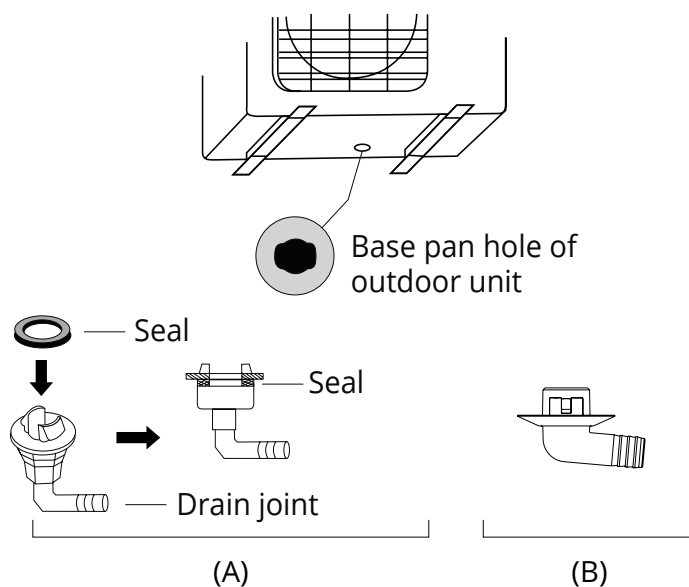

Fig. 4.4
**If the drain joint comes with a rubber seal** (see Fig. 4.4 - A), do the following:
**If the drain joint doesn't come with a rubber seal** (see Fig. 4.4 - B), do the following: